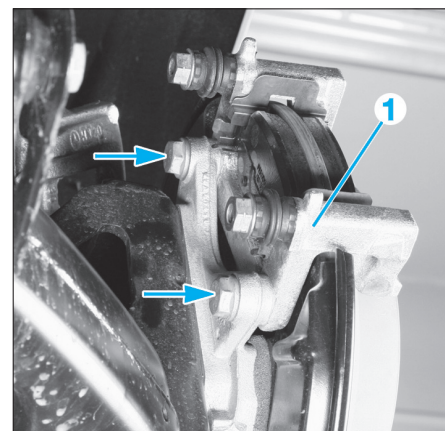

FIG. 19
- Déposer le support d'étrier (1) (Fig.19).